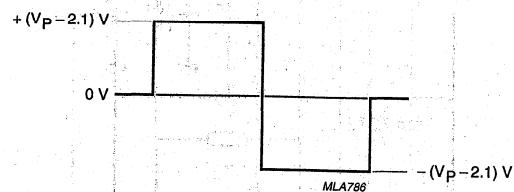

Fig.4 Maximum output voltage swing across R_L .
1. The output voltage swing is typically limited to $2 \times (V_p - 2.1) \text{ V}$, (see Fig.4).